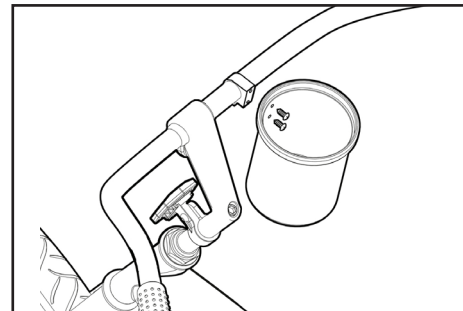

Figure 37
To install the cup holder onto your handlebars, loosen and remove the screw on the cup holder mount using the (A) Standard Phillips Head Screwdriver. Gently pull the mount open until it can slide over the grip onto the handlebars, then reinsert and retighten the screw. Line up the holes on the cup holder with the holes on cup holder mount, and then use the appropriate (C) Allen Wrench to insert and tighten the bolts to secure the cup holder to the mount (see Figure 37).